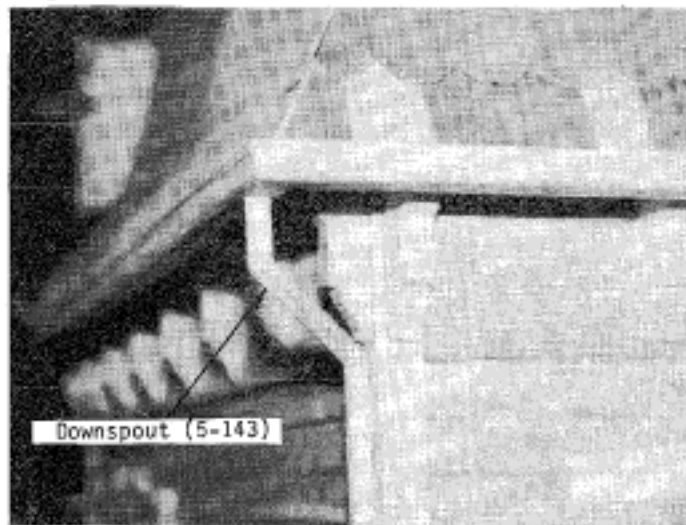

Figure 40
4. Add Downspout (Part No. 5-143) to the gutter. Figure 40.